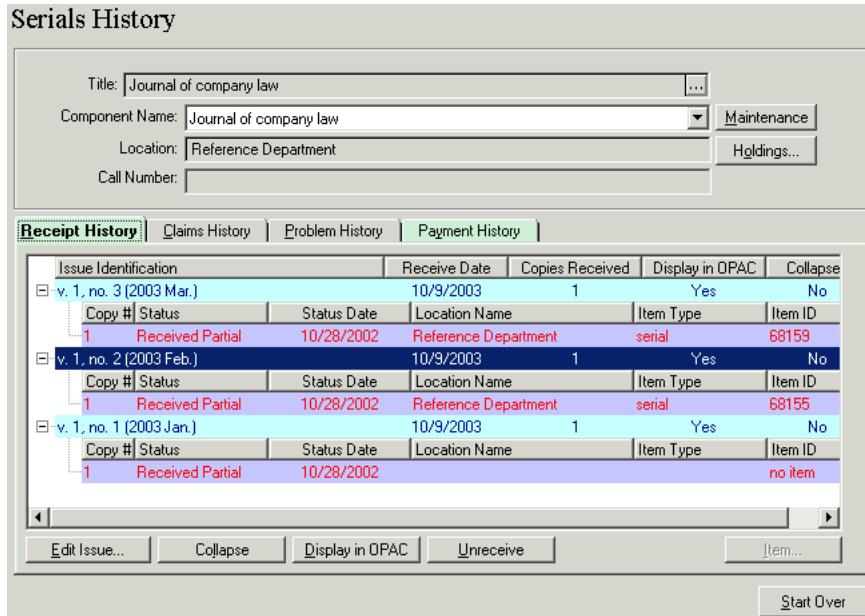

Figure 13-13. Serials History work space - Holdings button displayed
- The **Holdings** button on the **Serials History** work space. There are numerous ways to display the **Serials History** work space (Figure 13-13). See Serials History Information on page 9-28 for more information.